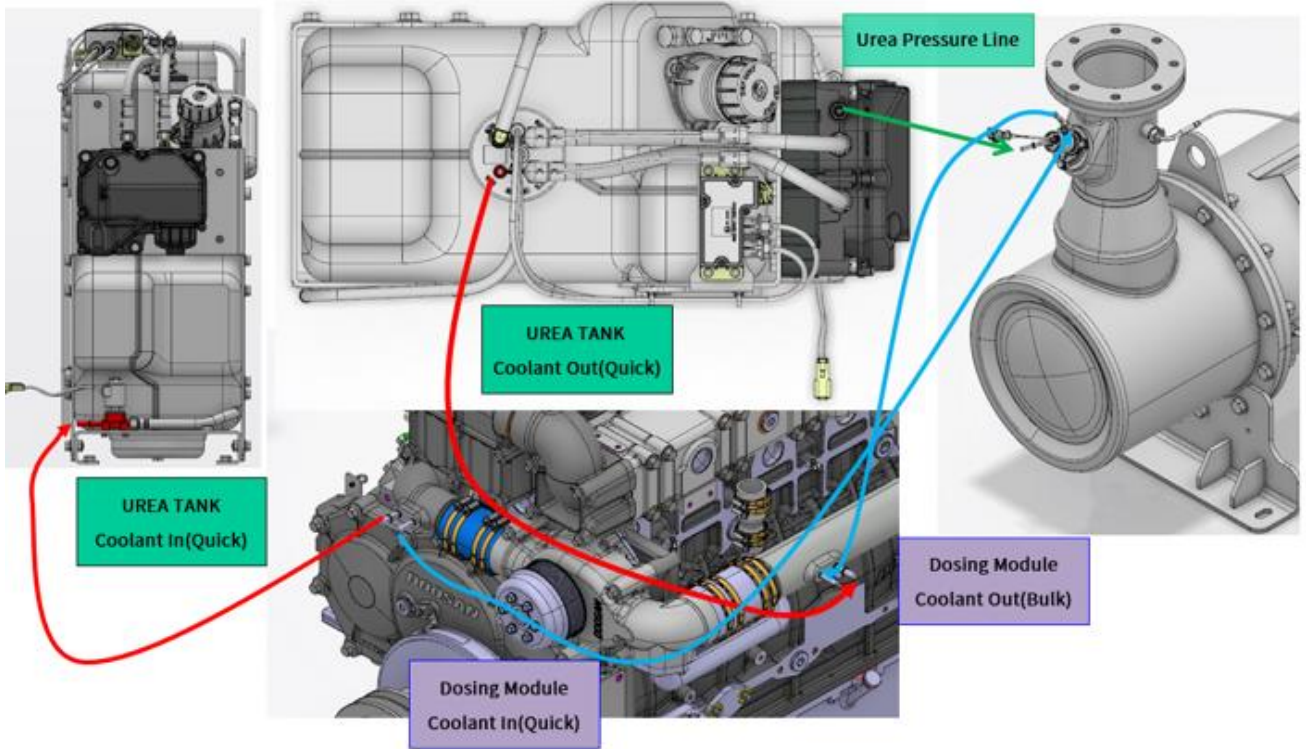

Fig. 10 Urea Tank heating & Dosing Module cooling Hose connection (DX12)
- The DM and SM coolant connections for the DX12, DL08, and DL06 engine are shown in Figs. 10–12.